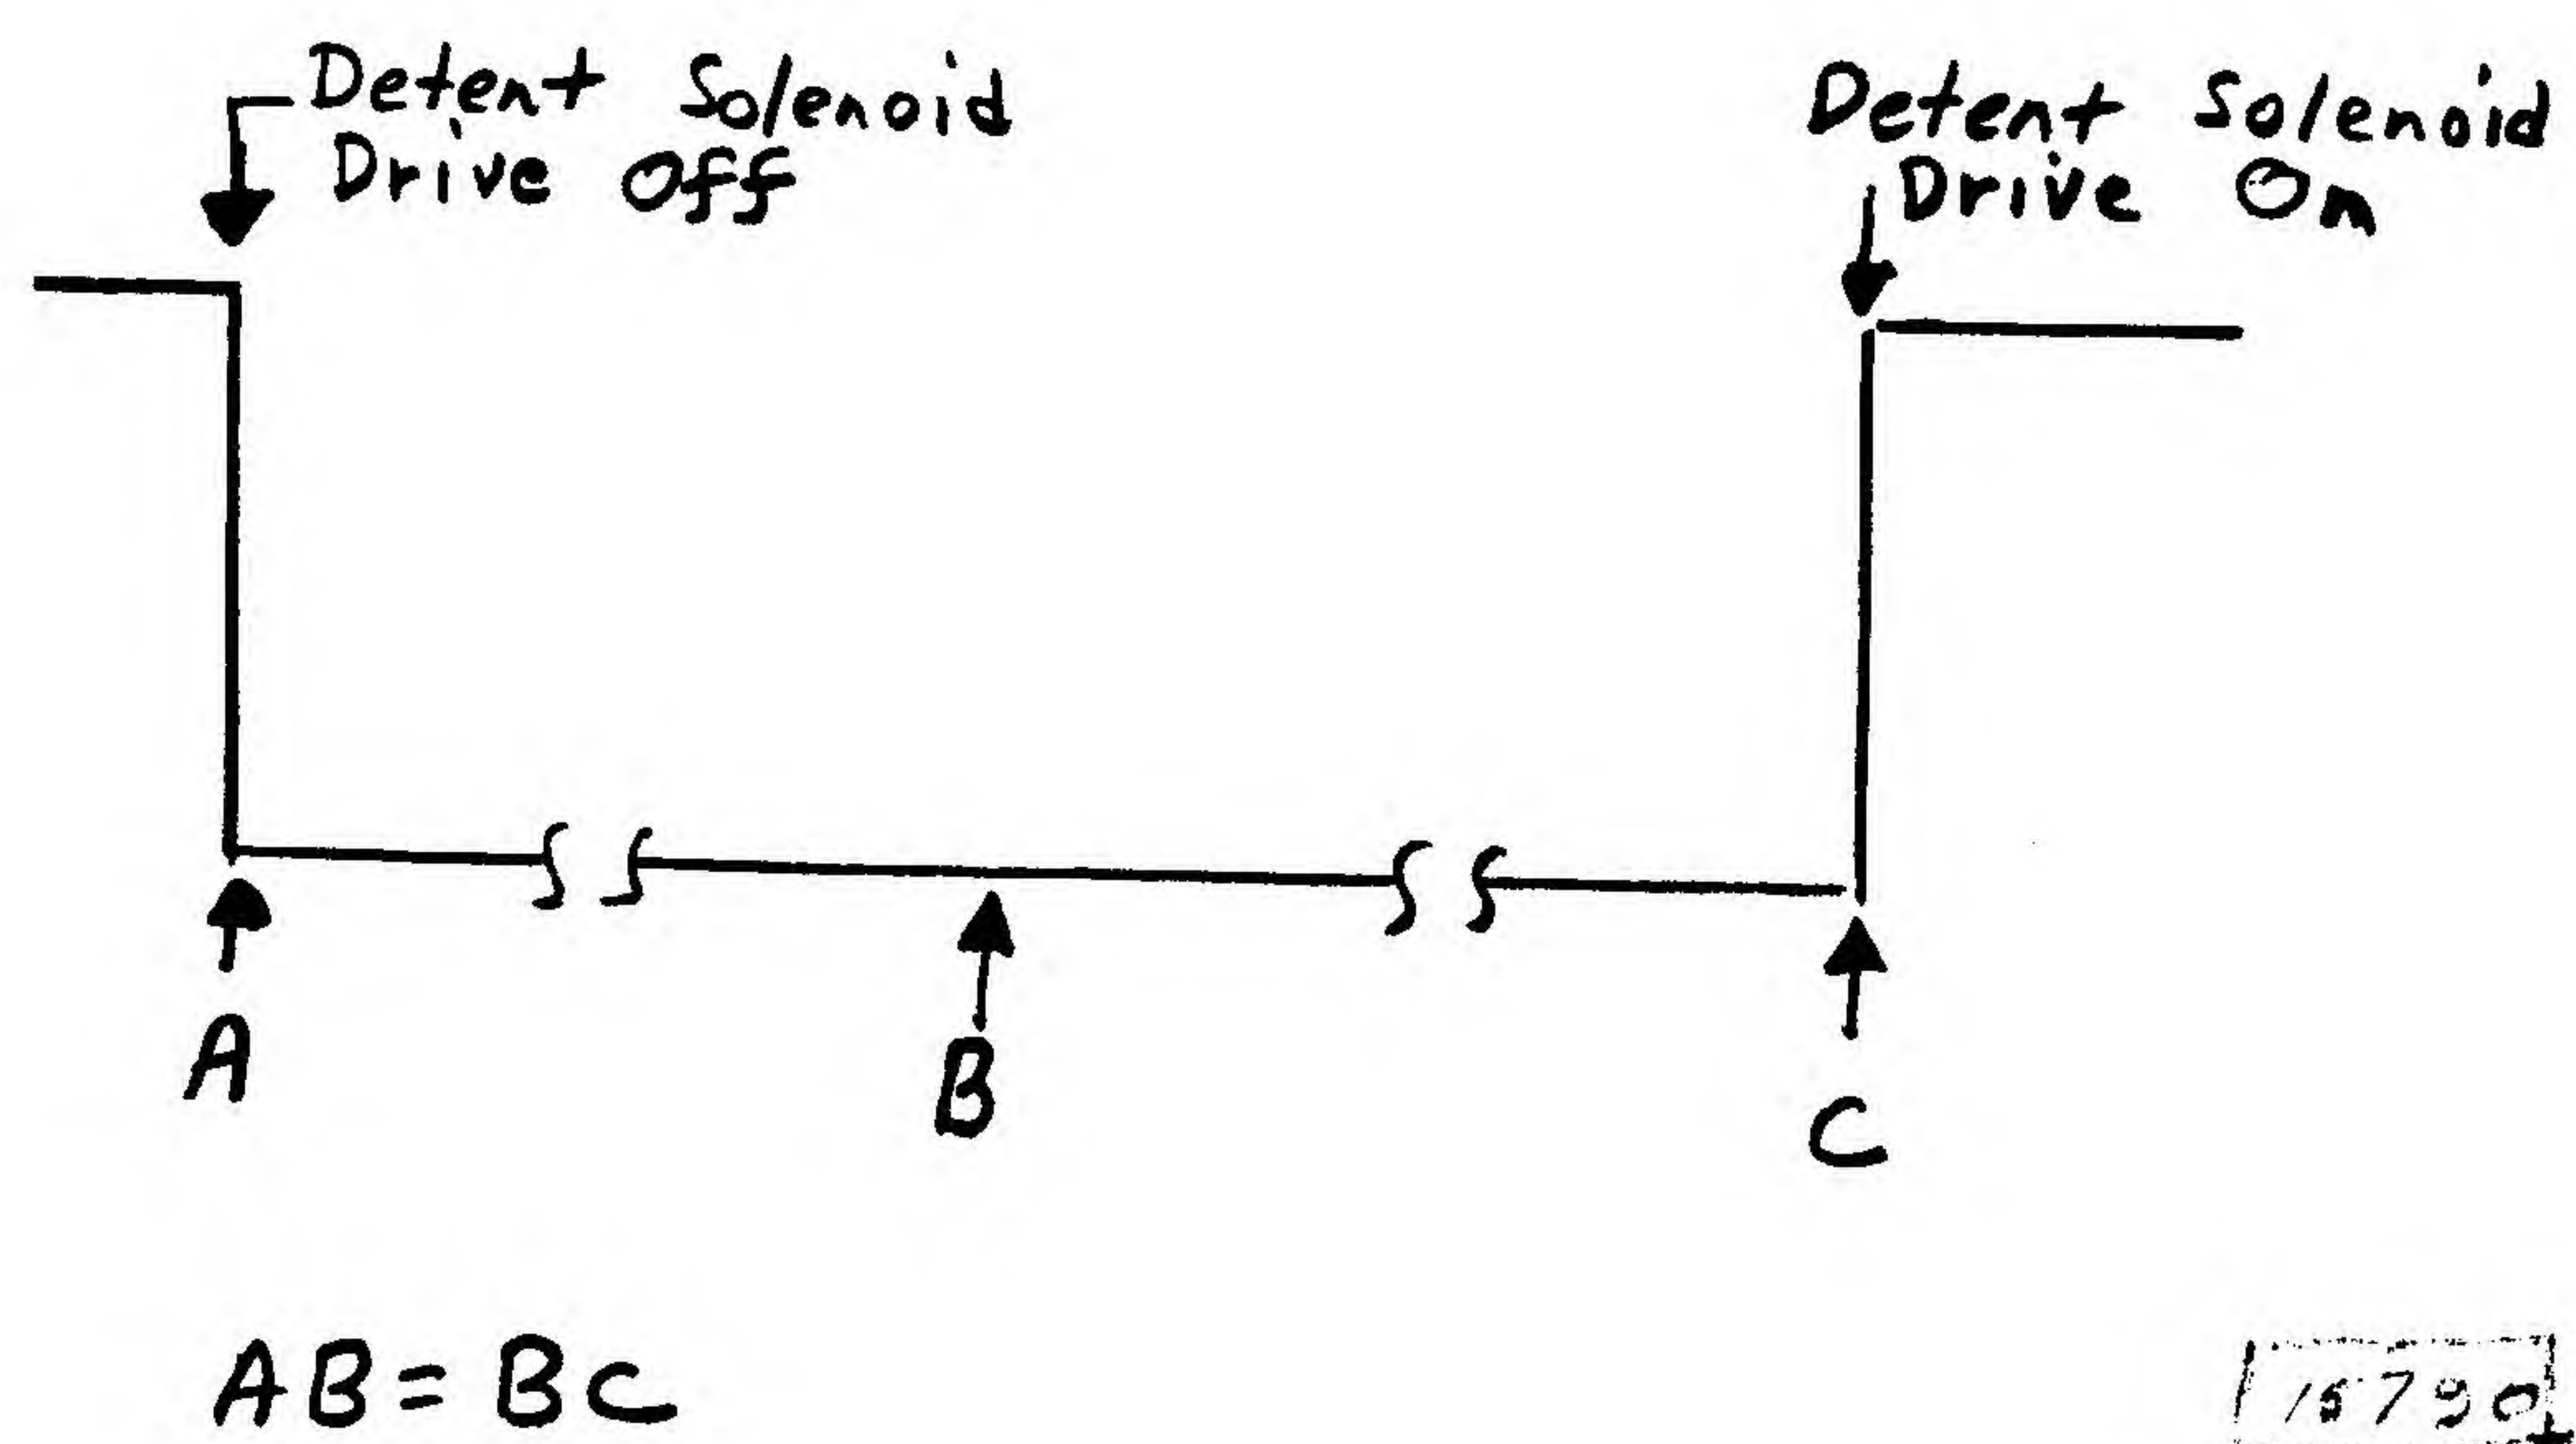

Figure 2-5 Detent Safety Check
3. Check the motion integrator (TED-at 01A5E 12). It should be adjusted to give maximum down level time as observed at Pin F while performing an access of 250 cylinders. This is to be measured during "B-C" portion of the motion cycle (See Figure 2-5).